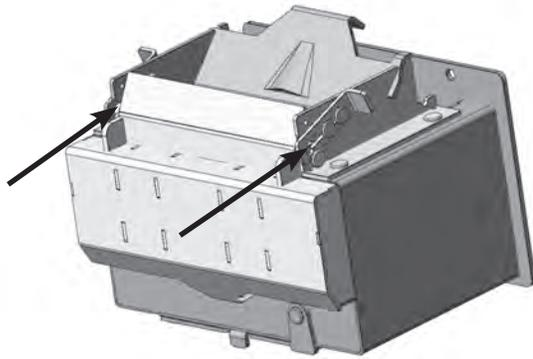

Figure 19
9. Slide the Flapper Door Hold down Tabs back (Figure 19).